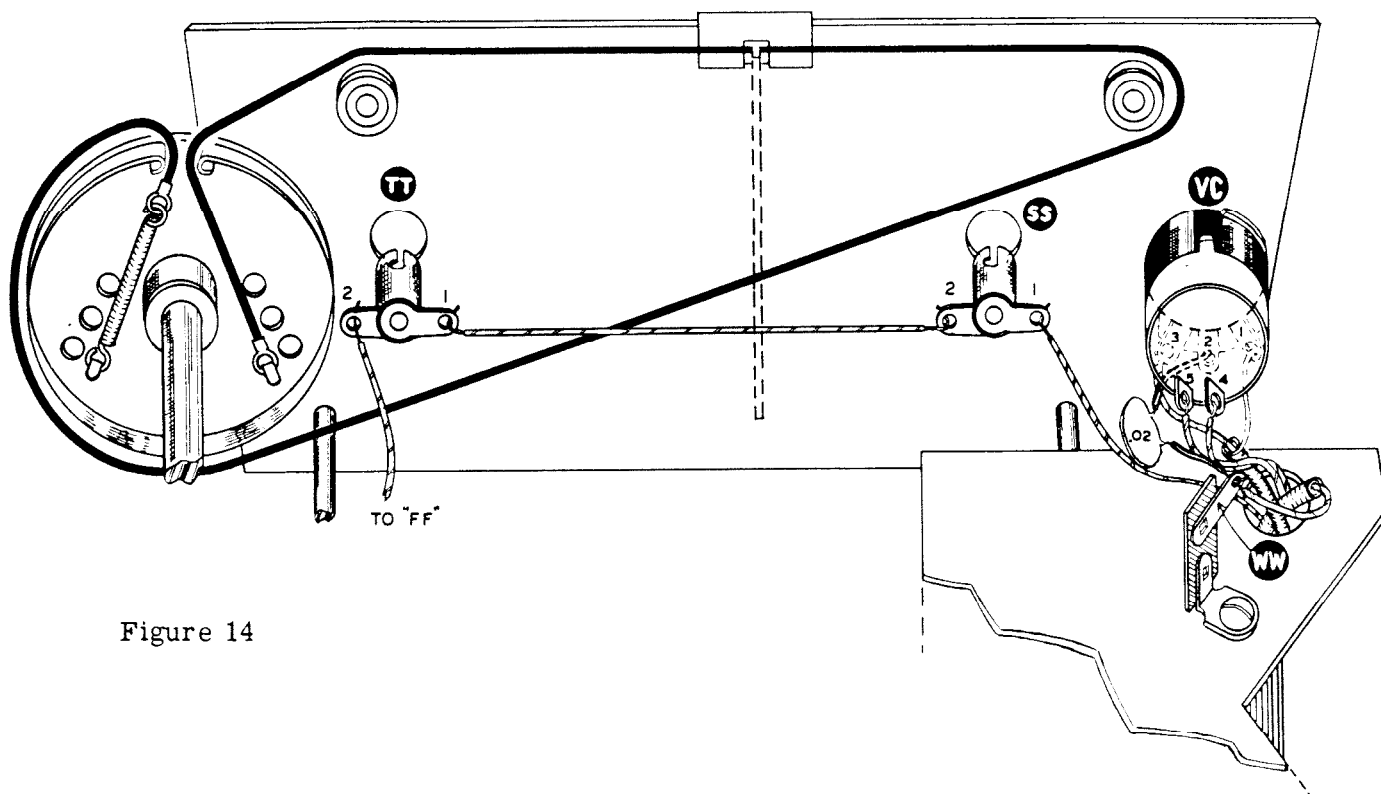
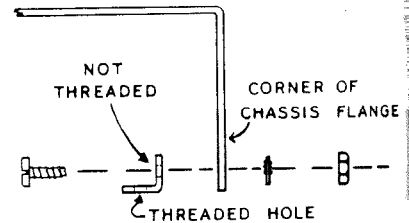

Figure 14
Figure 15
- ( ) String the dial cord as shown. It has been pre-cut to the proper length and no further adjustment is necessary. See Figure 14.
- ( ) Turn the receiver over and insert the end of the line cord through grommet N at the rear of the chassis. Tie a knot 2 1/2" from the end. Connect one lead of the line cord to M1 (S) and the other lead to M3 (S).
- ( ) Mount the four angle brackets as shown in Figure 15, using 6-32 x 3/16 screws, lockwashers and nuts.